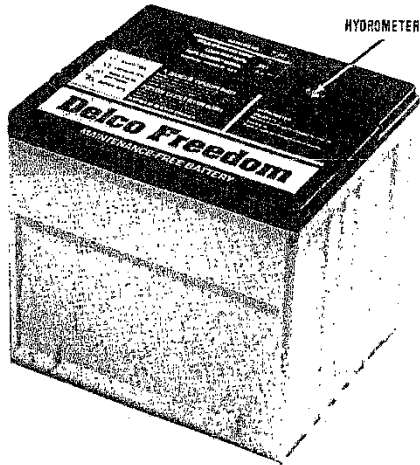
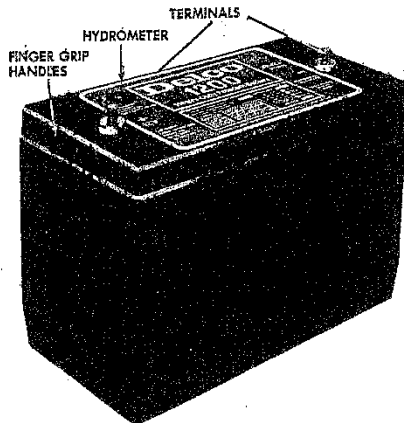

Figure 1—Typical Passenger Car Freedom Battery with Sealed Terminals
Figure 3—Typical Heavy-Duty Freedom Battery
The Freedom Batteries shown in Figures 1 and 2 are widely used in passenger car and light-duty truck applications. Figure 3 shows a heavy-duty Freedom Battery used in diesel engine trucks and other heavy-duty applications.
With special cables properly attached to batteries in Figures 1 and 3, the metal surfaces that carry the current are completely sealed from the atmosphere. This prevents terminal oxidation and corrosion that would cause starting and charging problems. If new cables are needed, sealed terminal cable replacements should be used to retain the reliability of the original maintenance-free connection. For the battery in Figure 1, torque studs to 5-10 lb.-ft. (7-13Nm). For Figure 3, torque cables
1. Freedom Battery (Fig. 1)—If more than one battery in the vehicle, check each battery separately by disconnecting batteries from each other. If Freedom Battery is in the vehicle, connect battery tester cable clamps to terminal studs, being careful to NOT TOUCH BARE METAL of the clamp attached to positive battery terminal to the metal of the vehicle—sparking will occur. If the Freedom Battery is OUT of the vehicle, assemble adapters (Fig. 5) and connect tester clamps to the adapters.
3. Freedom Battery (Fig. 3)—Cables to these batteries must be disconnected. If adapters are available, assemble onto battery as shown in Figure 6.